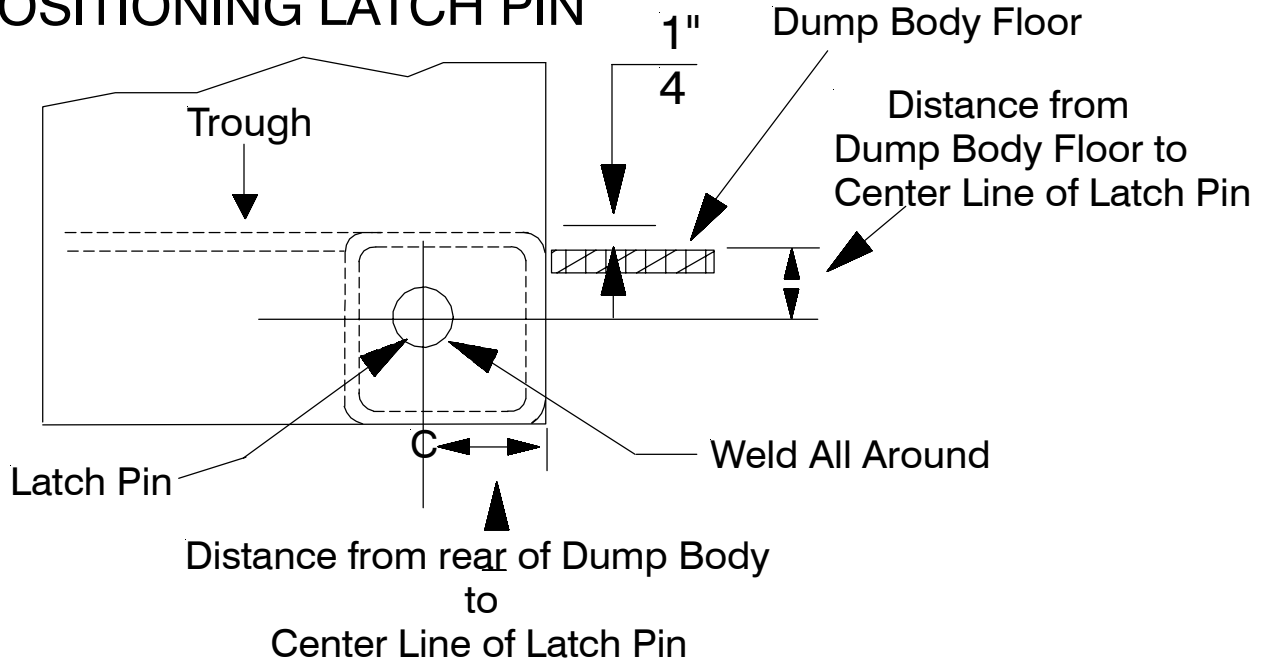

Figure 1
3. Pin upper hinge bracket into offset hinge of dump body and position against spreader ends. (Spacers may be required for proper alignment.) Tack weld in place. (See Figure 1 pg. 5)